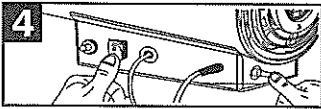

Figure 4
- 6、when the turning of the fan blades becomes stable, use the right hand to push the aluminum handspike of the flameout protector and keep for 10 seconds, then use the left hand to press the igniter button for ignition. (Figure 4)